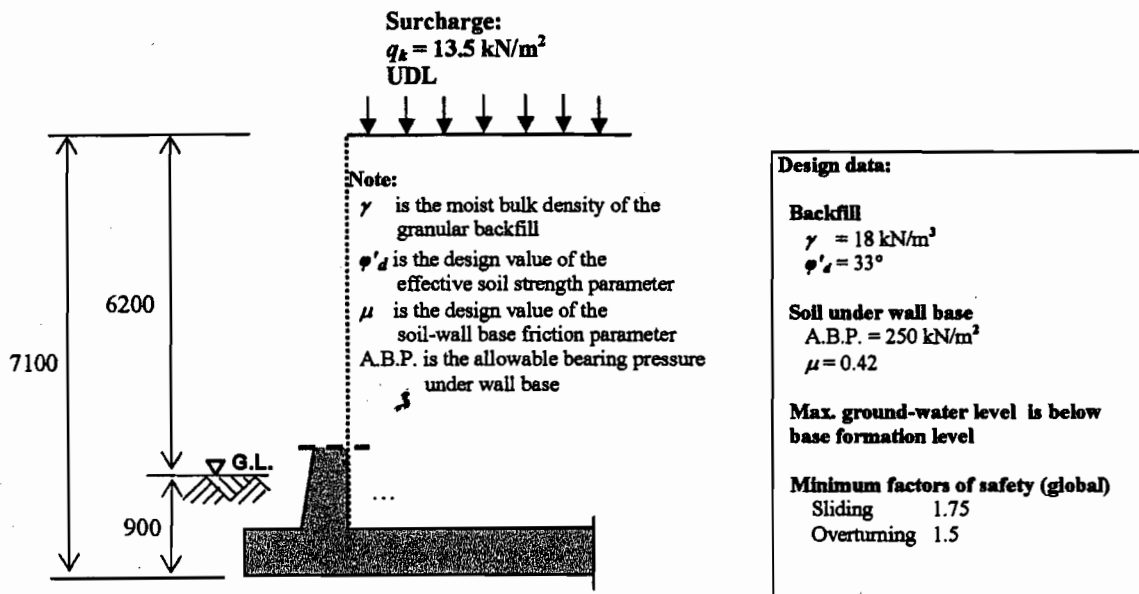

Fig. Q2 Wall and soil data
- (b) A cantilever retaining wall is required to sustain the difference in ground level shown in fig.Q2, in addition to a uniformly distributed surcharge of 13.5 kN/m^2 .